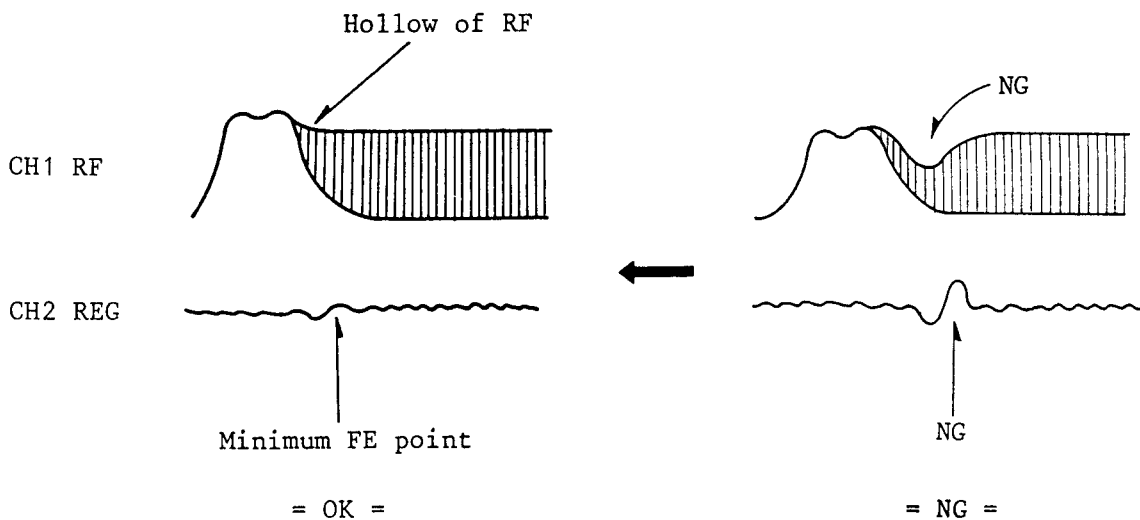

Fig. 2-13
- ③ Turn on the power supply switch.
- ④ Play back the band 8 or 13 (0.5 mm black spot) of the test disc (SZZP1014F).
- ⑤ Trigger so that the waveform shown in Fig. 2-13 is displayed on the oscilloscope and adjust VR104 so that the hollow of RF and the waveform amplitude of FE shall be minimum.
- ⑥ Turn off the power supply switch.